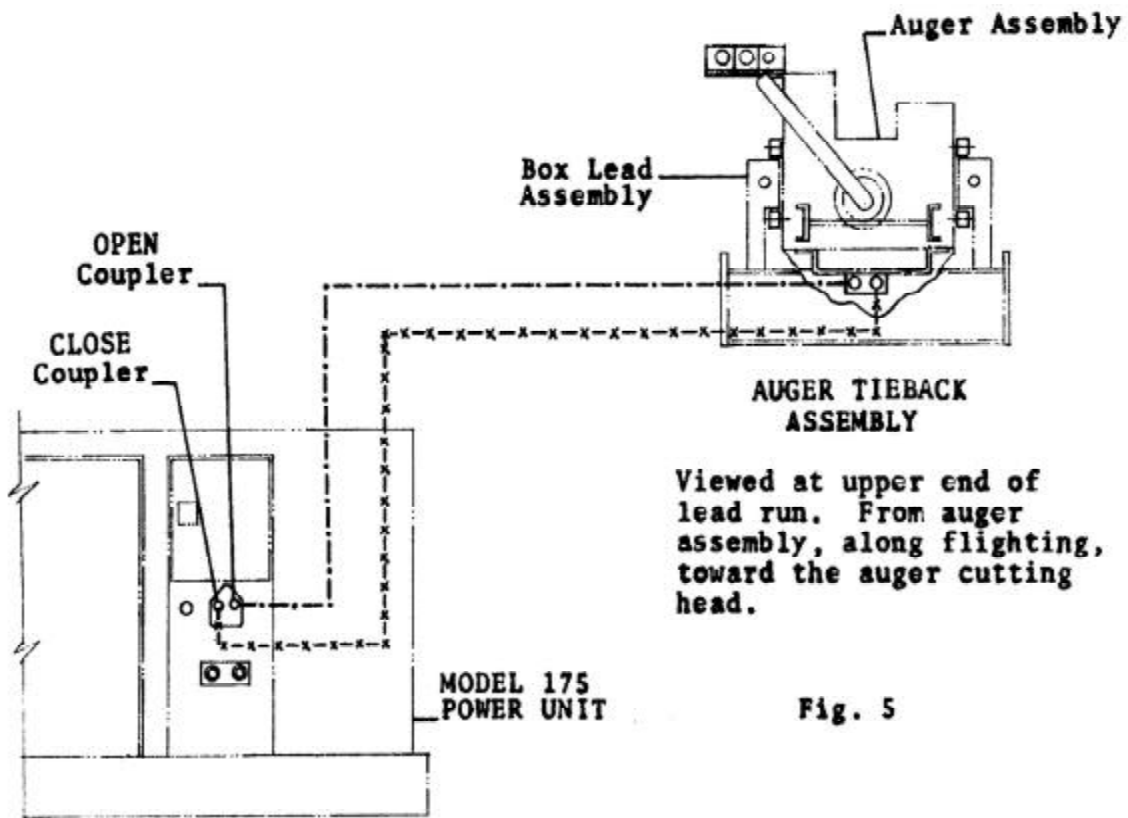

Fig. 5
1. If the unit is equipped with the optional crowd drive unit, two additional hydraulic hose lines must be connected (Fig. 5).
3. The crowd drive unit is usually shipped with the hoses attached, but if the hoses have been shipped separately, they must be connected. The diagram below (Fig. 5) shows the correct arrangement of the two hose lines connecting the crowd drive unit to the power unit.
E. OPERATION OF REMOTE-CONTROL PENDANT (FIG. 5)